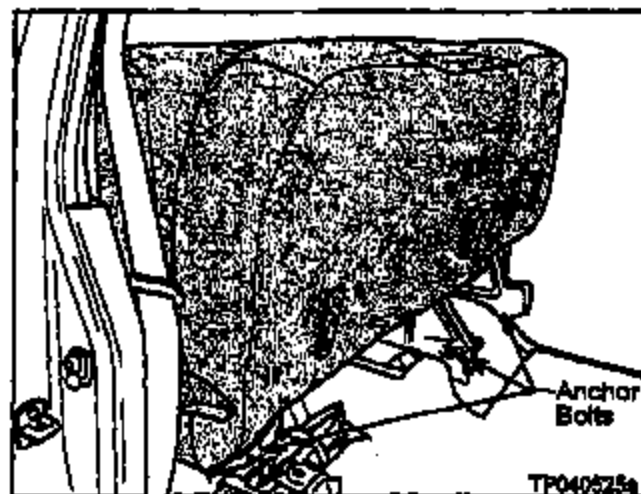

Figure 5
7. Remove the 8, 14mm, rear seat anchor bolts (see Figure 5 and 6).